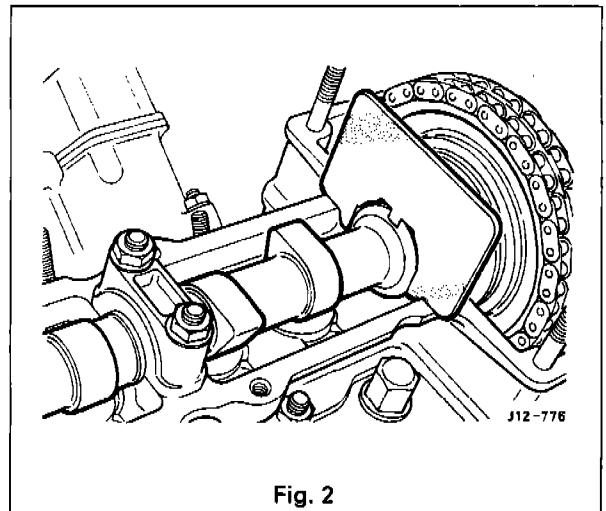

Fig. 2
- Remove the rubber grommet from the front of the right-hand timing cover and insert Service Tool JD 50 (Release Tool) (1 Fig. 2), and release the locking catch on the timing chain tensioner.
- Fit Service Tool JD 50 (Chain Tension Retainer) (2 Fig. 2) and retract the timing chain tensioner until the locking catch is engaged.
- Fit the replacement camshaft to its carrier using Service Tool, Timing Gauge C 3993, to position the camshaft correctly (Fig. 2).